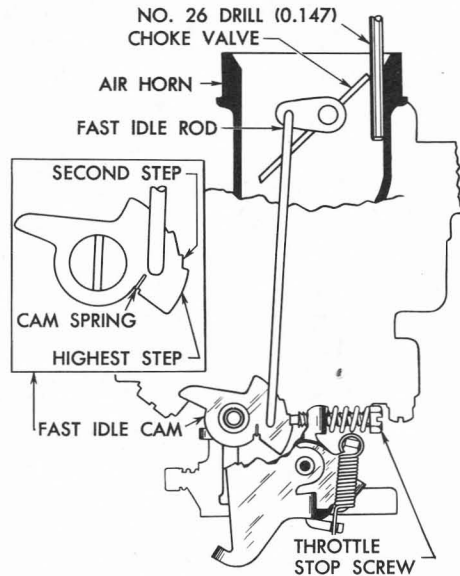

Figure 3-71—Stromberg Fast Idle Cam Adjustment
2. Place a No. 26 drill (0.147") between wall of air horn and the center of upper edge of choke valve, and hold valve firmly closed against the drill. See figure 3-71.
4. Close the throttle until stop screw contacts the fast idle cam. The screw should just clear the edge of the highest step of cam and bear against the second step, as shown in figure 3-71.